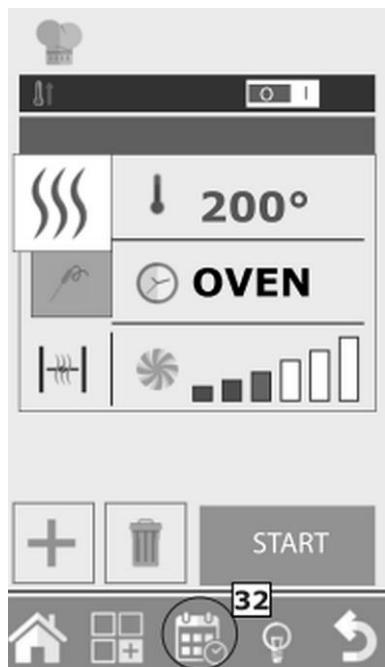

Fig. 39
A thermal processing start may be programmed beforehand by pressing key 32 (Fig. 39).